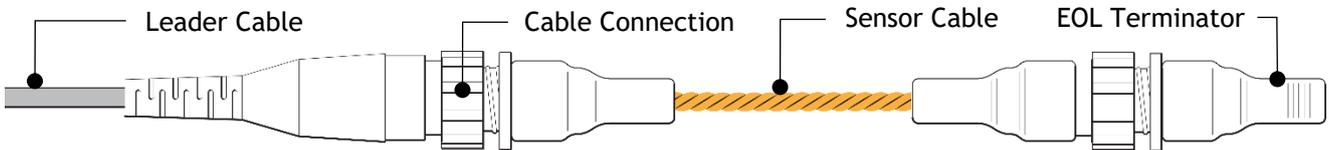

Figure 7: Sensor Cable Connection using Leader Cable (LC10C)
3. Plug the opposite end of the **leader cable** into the **sensor cable** (Figure 7).